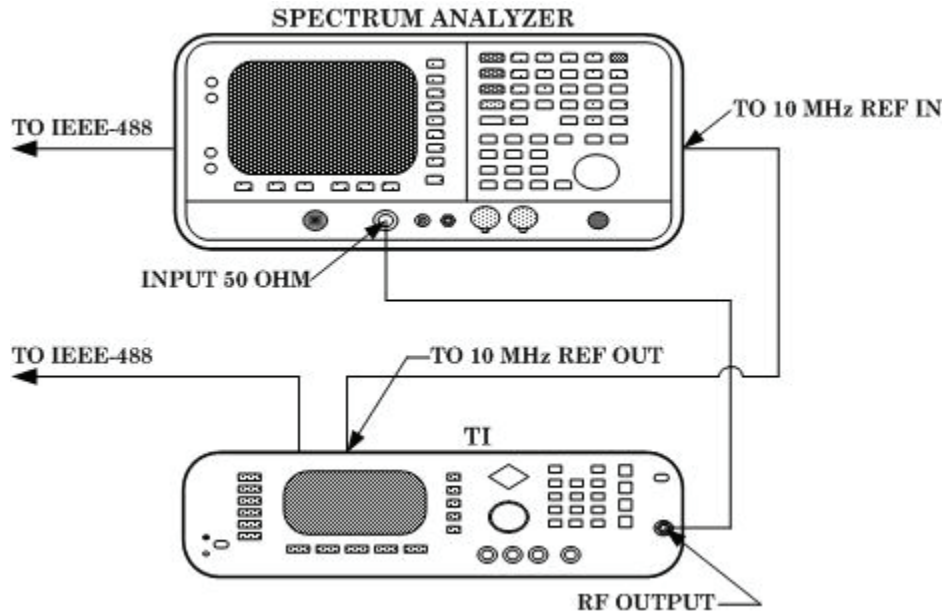

Figure 3. Spectral purity hook-up.
- (1) Connect equipment as shown in figure 3.